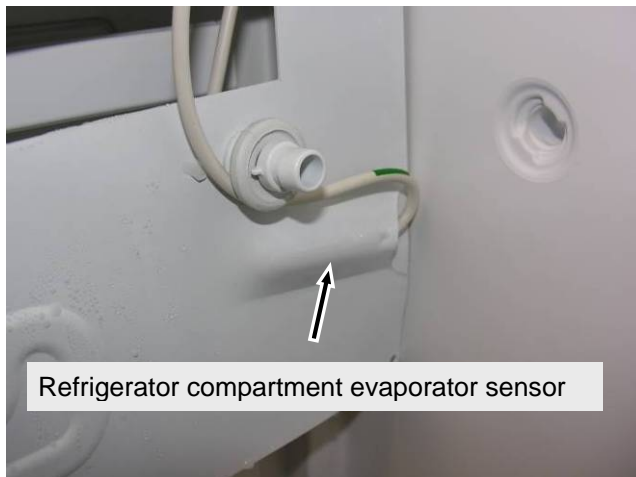

Fig. 5.2.13 / 1
- Draw the evaporator sensor out of the sensor pocket at the back of the evaporator (**Fig. 5.2.13/ 1**).